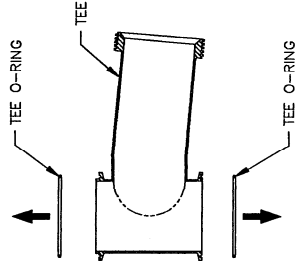

FIGURE 4
5. REMOVE THE O-RINGS FROM THE TEE AS SHOWN IN FIGURE 4.